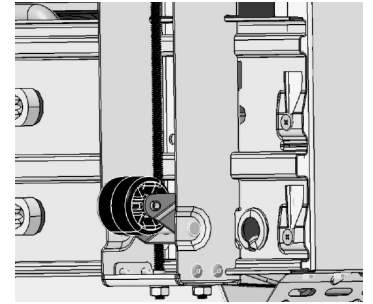

Fig. 3
3. a. Fit the first Leveler Assembly onto a refrigerator/freezer (Fig. 3).